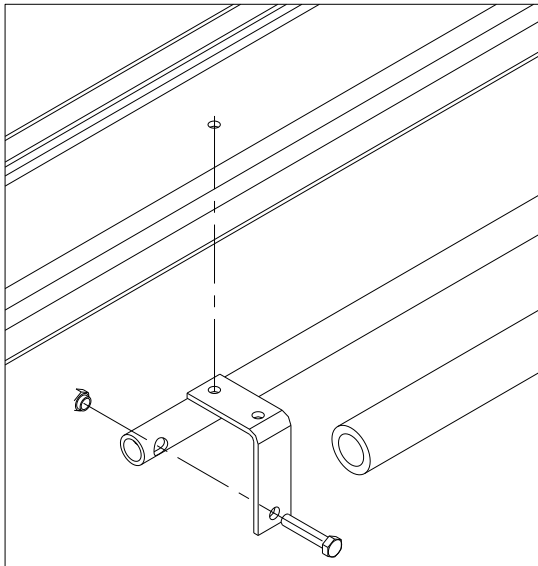
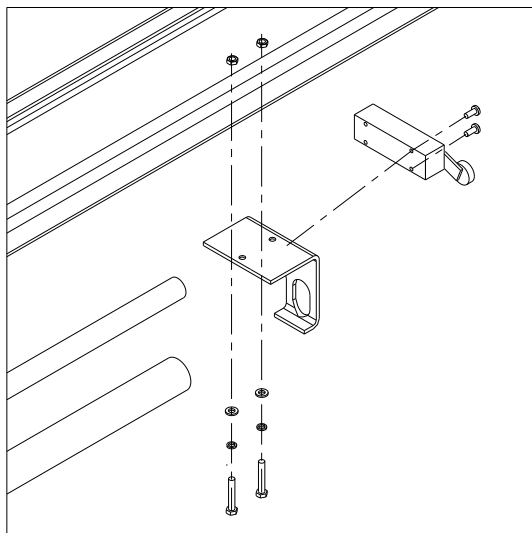

Fig. 32
Fig. 33
- ◆ Install the safety bar according to **Fig. 32** and **Fig. 33**.